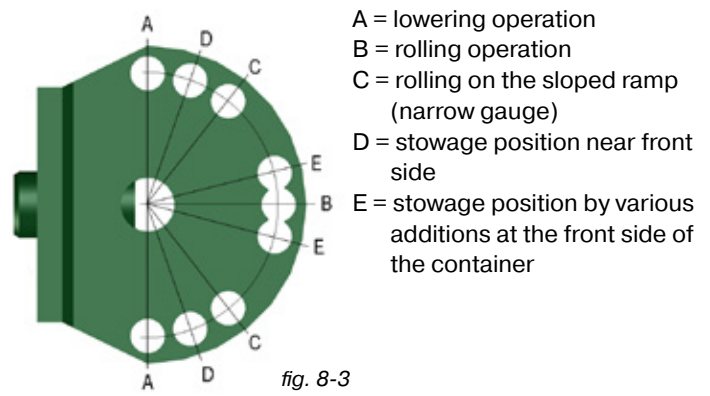

fig. 8-3
In order to lock the required pivot positions in place, the pivoting corner pillar is clamped to a ratchet disk (12 / fig. 8-3), which is located on the lower receptacle (1) using a loss-proof mounted socket bolt (11) and secured using a clip connector (26). The different pivot positions are pictured in fig 8-3 and in the table aside.